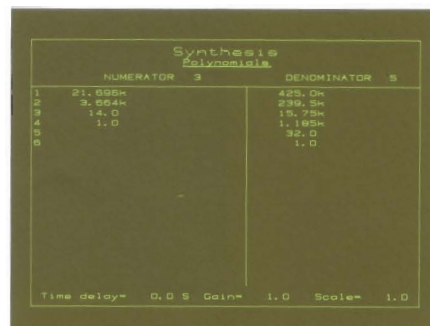

Figure 10-5
**4. Display Table** The polynomial synthesis table will appear as shown in Figure 10-5.